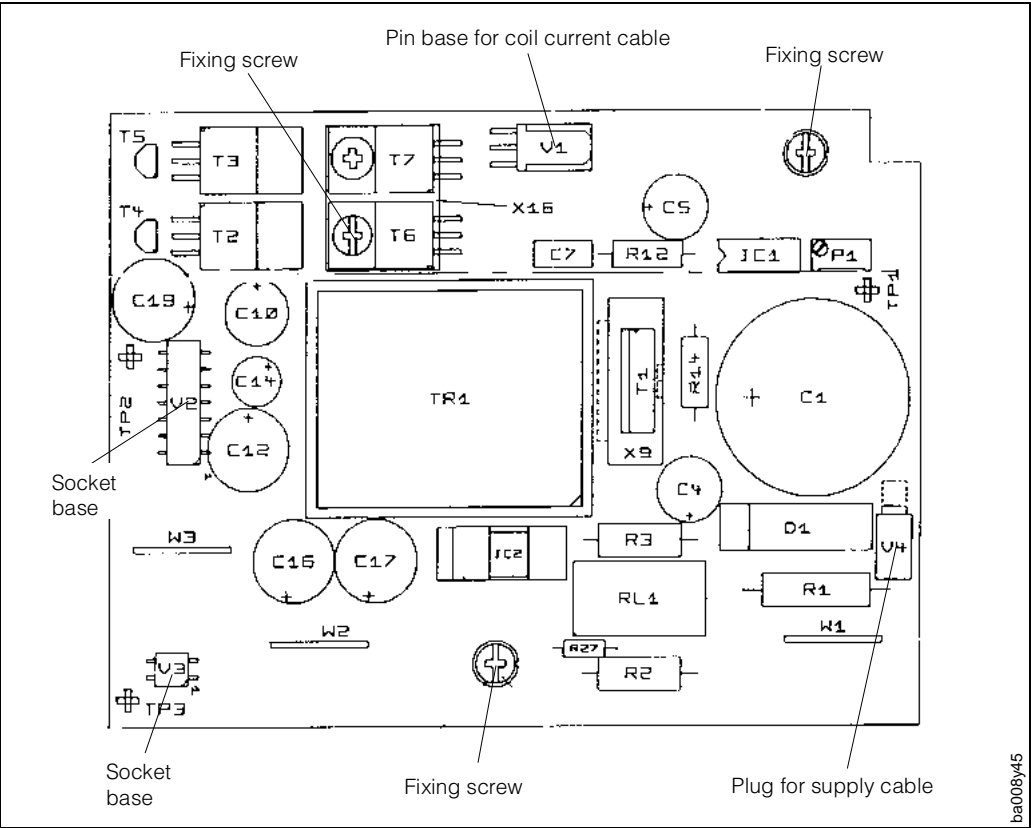

Fig. 43
4. Remove the 2-pole plug of the power supply cable by pressing the catch of the power supply board at the same time (Fig. 43: V4).
7. Remove the coil current cable plug from the power supply board (Fig. 43: V1).